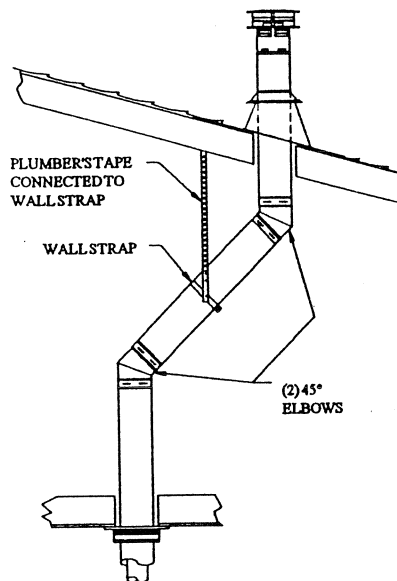

Fig. 7
- 2) Set the gas appliance in its desired location. Drop a plum bob down from the ceiling to the position of the appliance flue exit, and mark the location where the vent will penetrate the ceiling. Drill a small hole at his point. Next, drop a plumb bob from the roof to the hole previously drilled in the ceiling, and mark the spot where the vent will penetrate the roof. Determine if ceiling joists, roof rafters or other framing will obstruct the venting system. You may wish to relocate the appliance or to offset, as shown in Fig. 7 to avoid cutting load bearing members.
NOTE: If an offset is necessary in the attic to avoid obstructions, it is important to support the vent pipe every 3 feet, to avoid excessive stress on the elbows, and possible separation. Wall Straps are available for this purpose. Fig. 7.